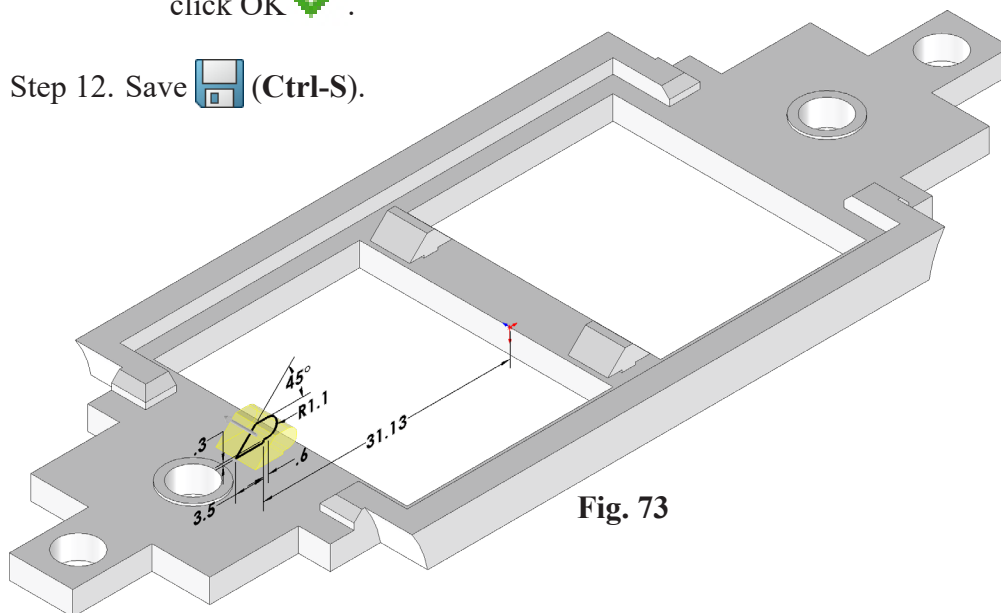

Fig. 73
Step 8. Use **Previous View**  on the Standard Views toolbar. (**Ctrl-Shift-Z**) to return to previous Isometric 180°, **Fig. 73**. Or click **Isometric** , then **Shift** click the **Z**  axis of the Reference Triad  two times.